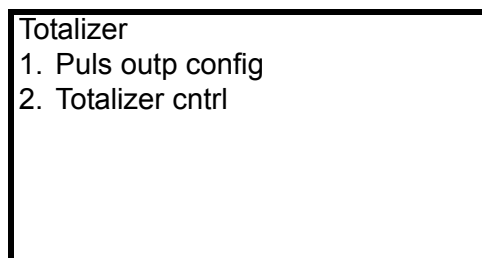

Figure 21 Totalizer menu
2. Select “1. Pulse output config.” from the totalizer menu. (Figure 21)
1. Select "2. Totalizer cntl" from the totalizer menu. (Figure 21)